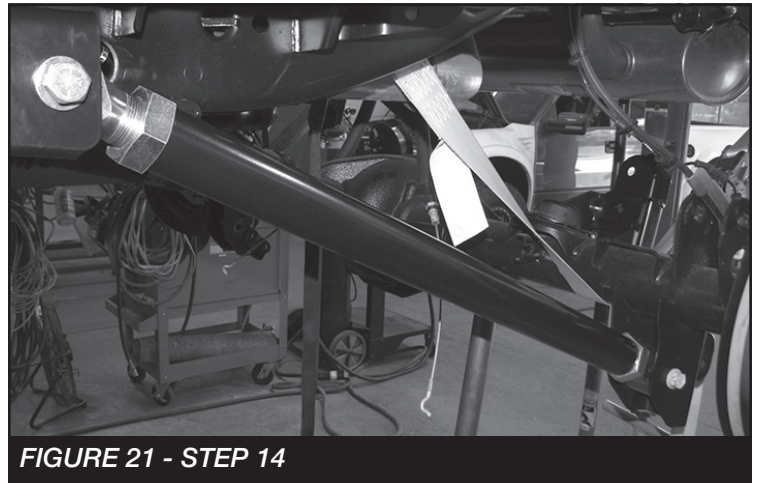

FIGURE 21 - STEP 14
14. Install the new lower link into the driver side new frame pocket using the 5/8" hardware and the factory hardware for the axle side. **NOTE: Install the end with the link twist washer on the frame pocket inner side. SEE FIGURE 21**